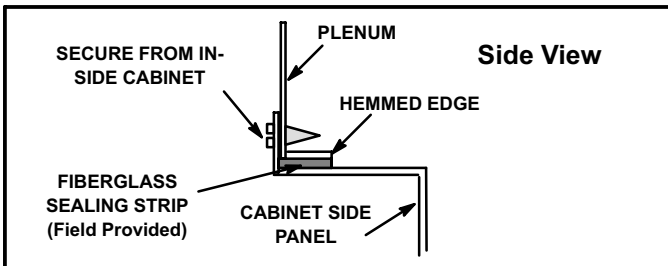

FIGURE 14
- 4 - In closet installations, it may be impossible to install sheet metal screws from the outside. In this case, make plenum with a removable front and install screws from the inside (See figure 14).